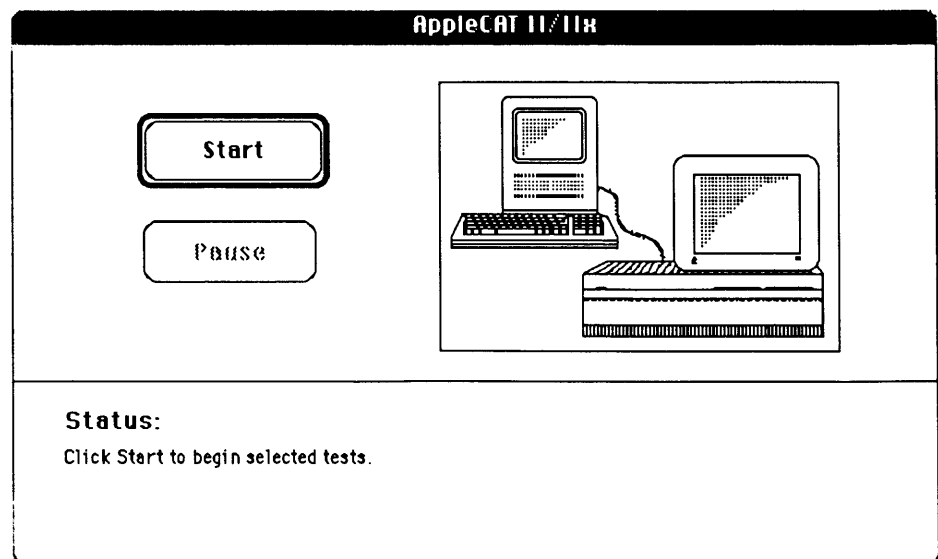

Figure 3-8
2. Open the disk icon and then the *AppleCAT II/Iix* icon. The *AppleCAT II/Iix Start* window (Figure 3-8) will appear on the test station screen.